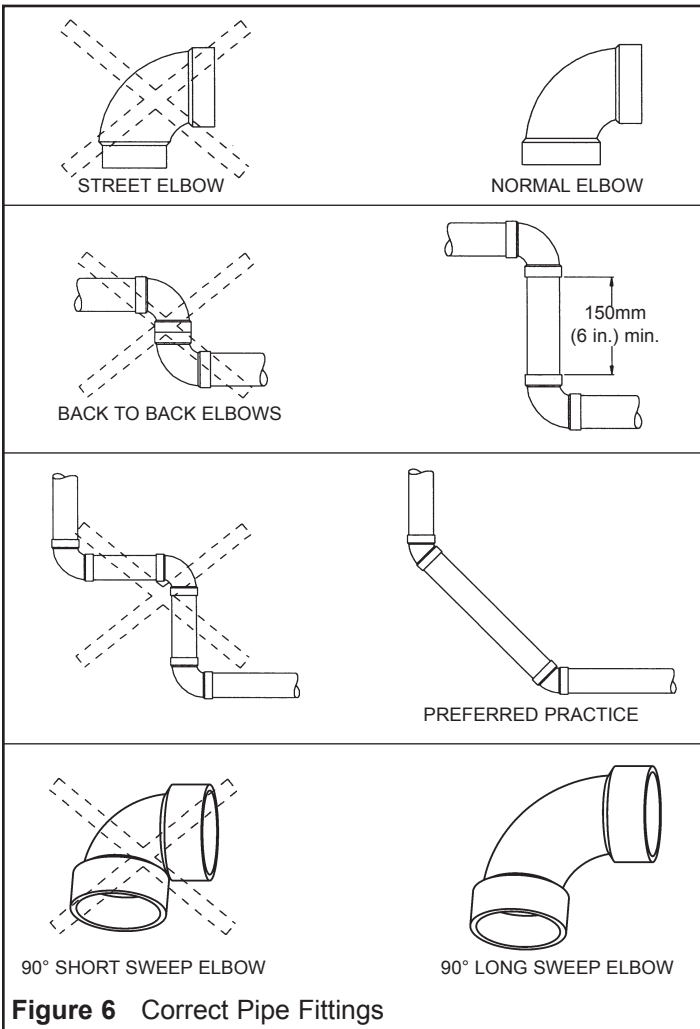

Figure 6 Correct Pipe Fittings
- Do not use 90-degree elbows "back to back" and do not use street elbows. Maintain a minimum 150mm (6 in.) straight section between elbows. Closely coupled and short radius elbows reduce the venting capacity. Figure 6 shows examples of vent pipe connections.